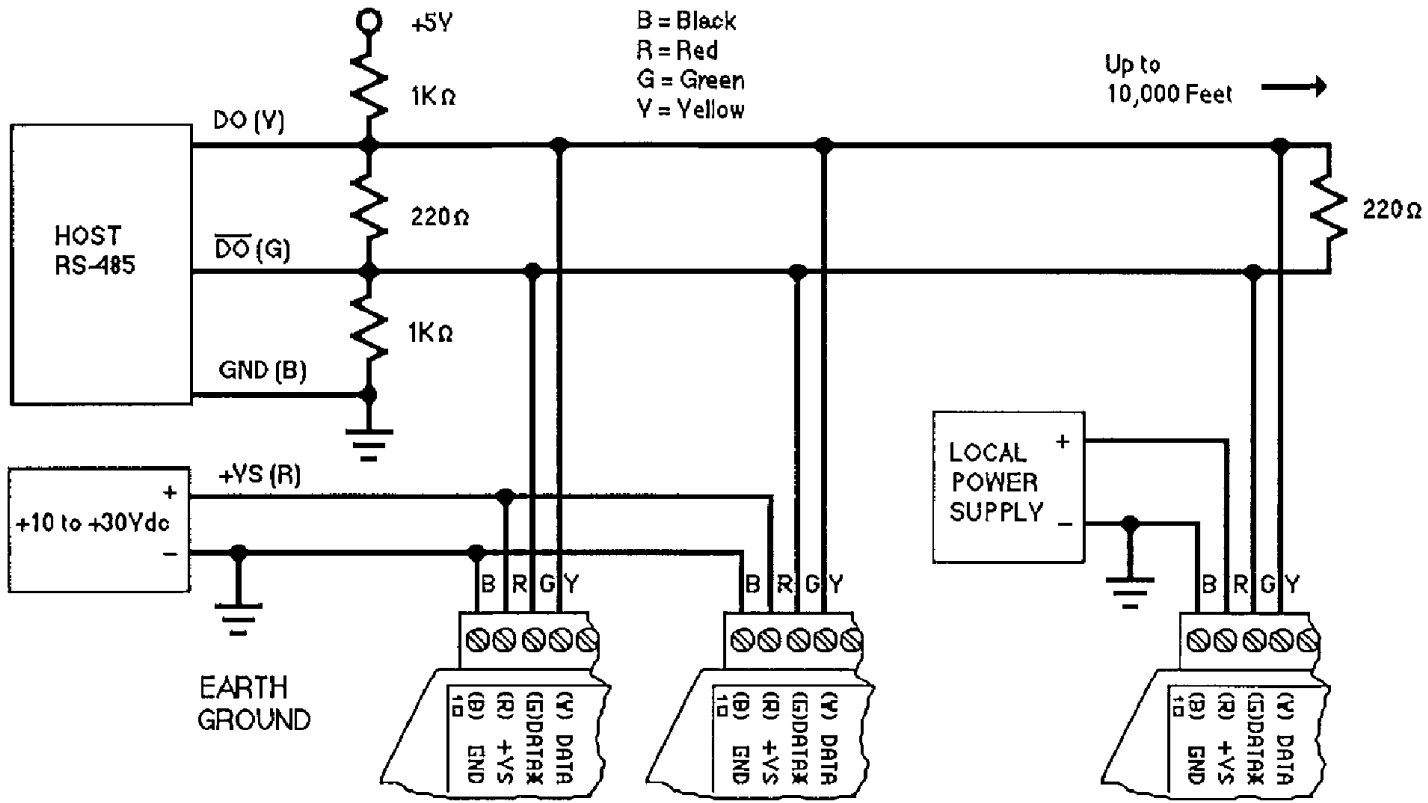

Figure 3.2 RS-485 Network.
Figure 3.2 illustrates the wiring required for multiple-module RS-485 system. Notice that every module has a direct connection to the host system. Any number of modules may be unplugged without affecting the remaining modules. Each module must be setup with a unique address and the addresses can be in any order. All RS-485 modules must be setup for no echo to avoid bus conflicts (see Setup). Also note that the connector pins on each module are labelled with notations (B), (R), (G), and (Y). This designates the colors used on standard 4-wire telephone cable:
prevent the generation of random characters, the lines should be biased in a MARK condition as shown in Figure 3.2. The 1K resistors are used to keep the DATA line more positive than the DATA* line when none of the RS-485 transmitters are on. When enabled, the low impedance of an RS-485 driver easily overcomes the load presented by the resistors.